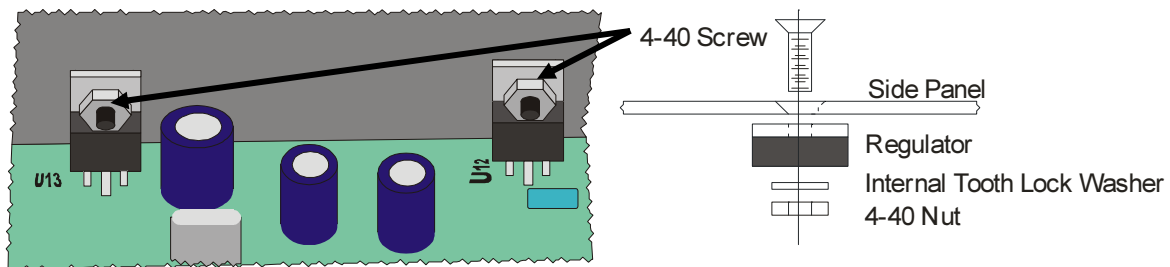

Figure 2
14. Reinstall the black 4-40x3/8 flathead screw, lock washer, and nut removed from U12 and U13. (See Figure 2.)